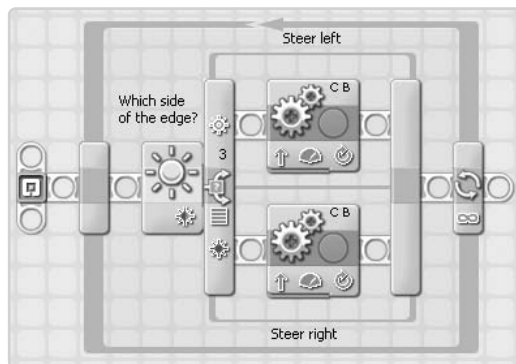

Figure 6-7: LineFollower program structure (before configuring the blocks)
Figure 6-7 shows the basic structure of the program, with the blocks all in place but not yet configured. (The blocks will appear a little different after following the instructions given in this section.) The Loop block keeps the program running until you stop it. The Switch block reads the Light Sensor and decides which Move block to run. The Move block on the upper Sequence Beam steers the TriBot to the left, and the one on the lower Sequence Beam steers it to the right.
2. Add the Loop, Switch, and Move blocks as shown in Figure 6-7.